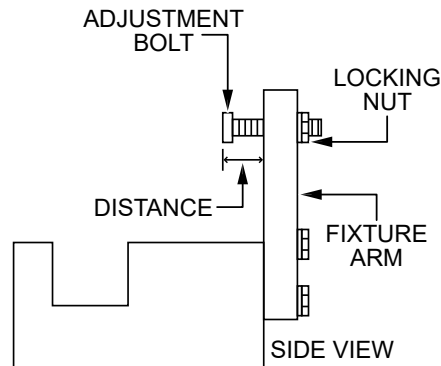

Figure 49. Trowel Arm Adjustment Tool (Side View)
Figure 49 illustrates a **trowel arm adjustment tool**. As a trowel arm is locked into the adjustment tool, the trowel arm bolt is adjusted to where it contacts a stop on the fixture. This will consistently adjust all of the trowel arms, keeping the finisher as flat and evenly pitched as possible.
3. Adjust the fixture **adjustment bolt distance** shown in Figure 49 to **0.15 in. (3.81 mm)**.